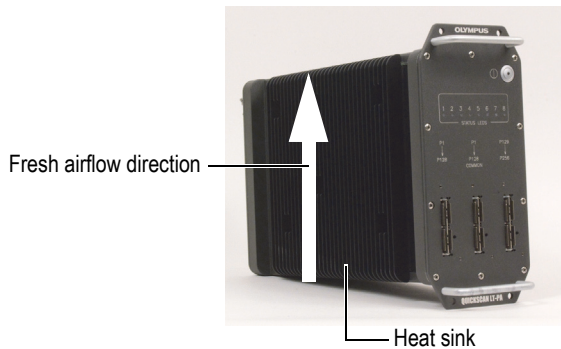

Figure 3-1 QSLT – Heat sink location and air circulation
- The unit must be installed in an upright position (see Figure 3-1 on page 40).
- A steady upward air draft should circulate over the heat sink to help dissipate the heat (see Figure 3-1 on page 40). Use ventilation when necessary.